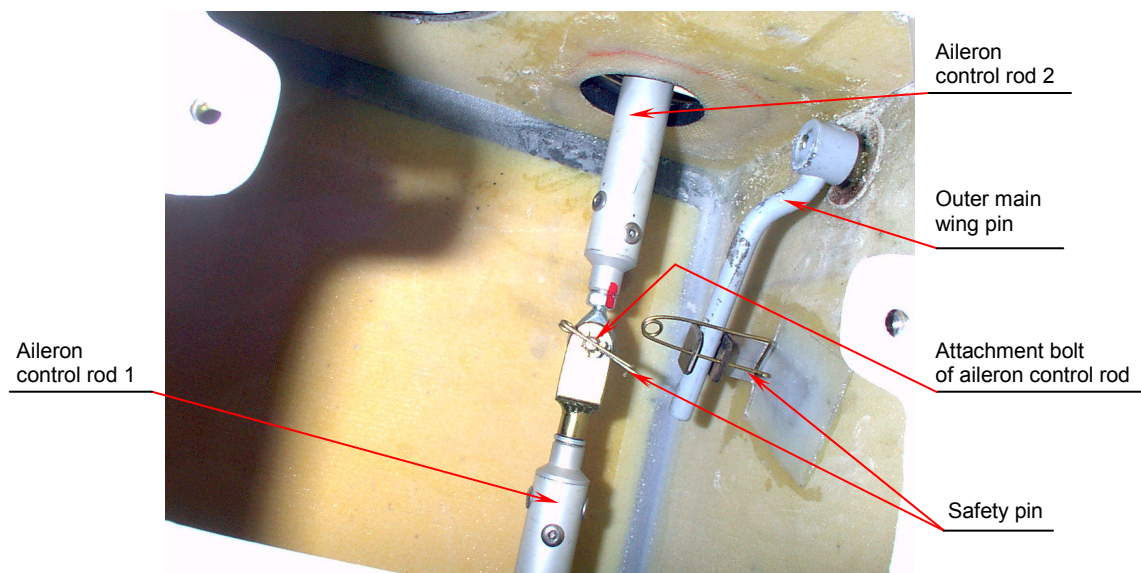
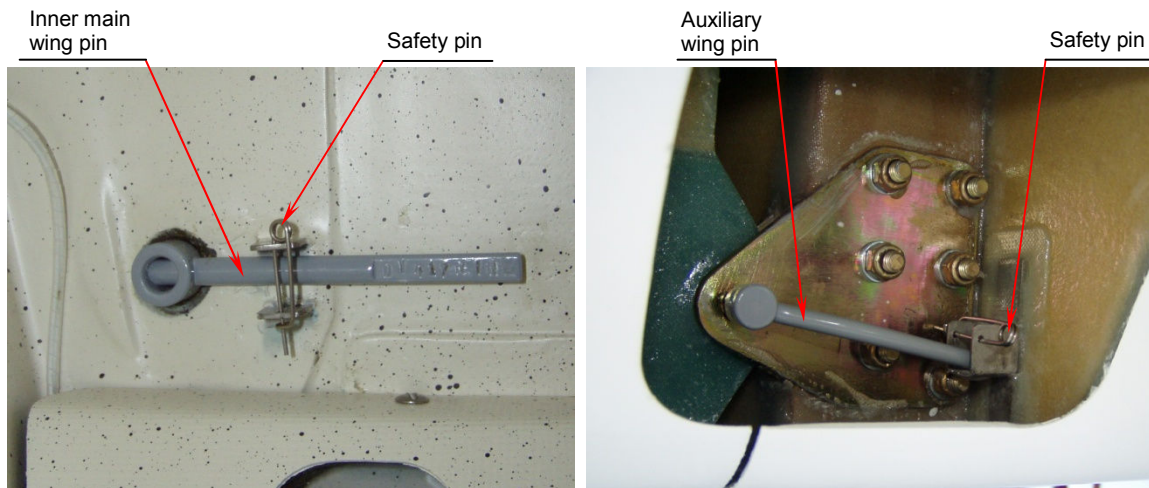

Fig. 3a Outer main wing pin and aileron's connection
Fig. 3b Inner main and auxiliary wing pin
4. Insert rear spar into the fitting of the central section's rear spar. Secure all 6 pins with safety pins (Fig. 3a and Fig. 3b).
6. Connect the aileron control rod 2 with the aileron control rod 1 and secure the nut (Fig. 3a) with the safety pin. Tight the fuel hose clamps (if the wing is equipped with fuel tanks).
3. Disconnect aileron control rod 2 from the aileron control rod 1 (Fig. 3a). Release the fuel hoses clamp (if the wing is equipped with fuel tanks).
5. Pull out all wing's pins (connecting the wing's main and auxiliary spar with the wing central section) (Fig. 3a and Fig. 3b).